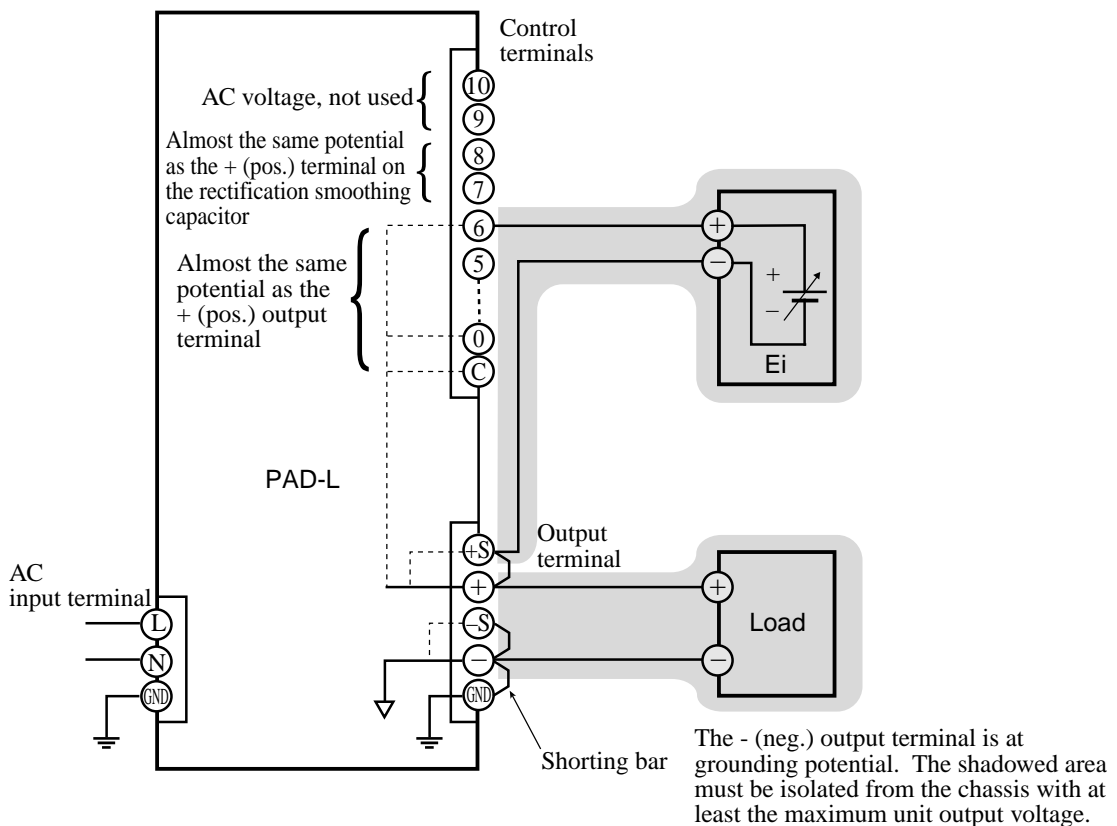

Fig. 2-9 Grounding the - (neg.) terminals
Fig. 2-9 illustrates a connection of the - (neg.) output terminal to the GND (chassis ground) terminal. In this case, the - (neg.) output terminal is at grounding potential. For this reason, cables and loads connected to output terminals (including the sensing terminal) need to be isolated from the chassis with at least the maximum unit output voltage. The same applies to cables and devices connected to terminal C and terminals 0 through 6 on the control terminal board. Note that cables and devices connected to terminals 7 and 8 need to be isolated with at least twice the maximum unit output voltage. This is because these terminals are at almost the same potential as the + (pos.) terminal of the rectification smoothing capacitor.
- **When remote-controlling the unit using an external voltage source (Ei), float Ei outputs instead of grounding them (floating). As in the example shown in Fig. 2-9, grounding Ei outputs may lead to output short-circuits.**